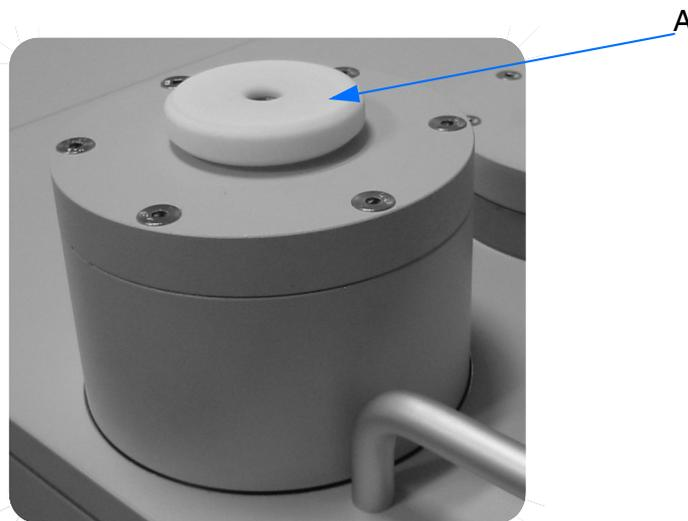

Figure 29: Counter nut on detector
- 1 Completely loosen the counter nuts (A in figure 29) from all detectors. Liquid-nitrogen cooled detectors only are equipped with such counter nuts.